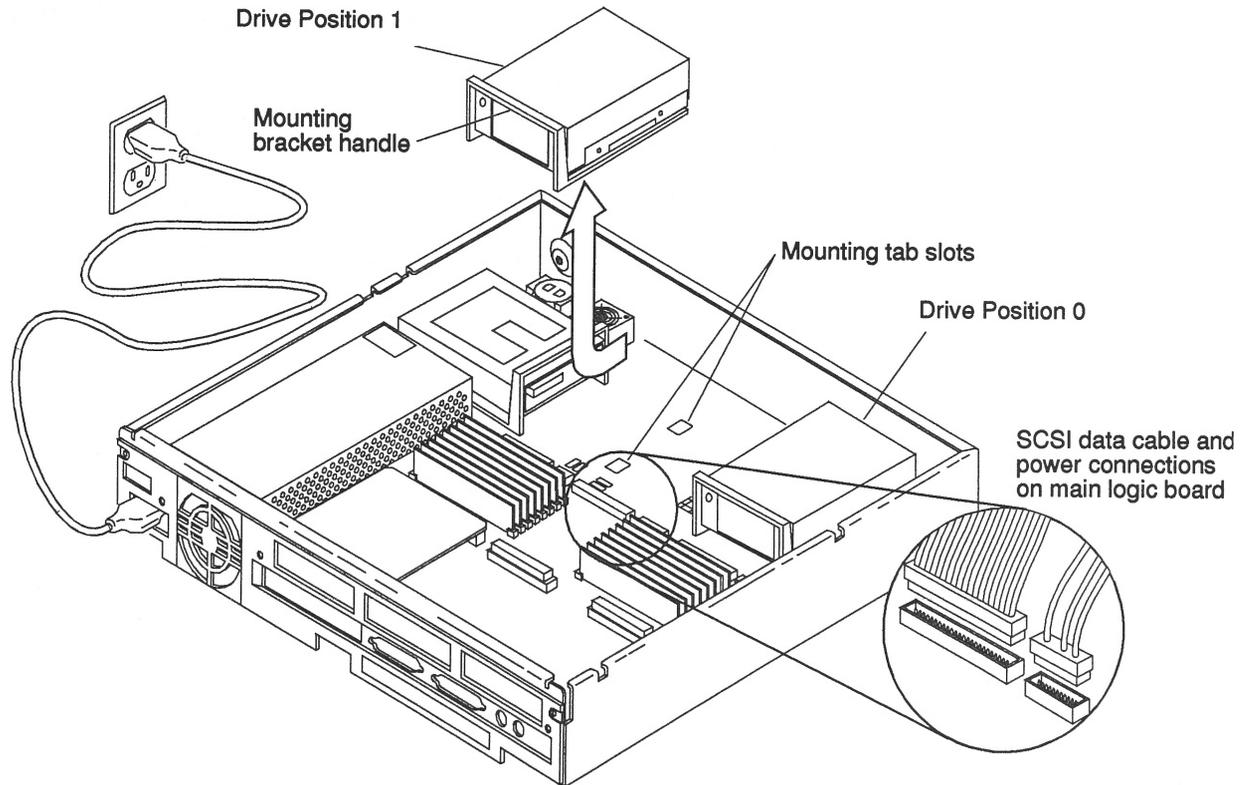

Figure 2-12 Removing a Hard Disk Drive
7. Disconnect the hard disk drive power and SCSI data cables from the main logic board. Refer to Figure 2-12.